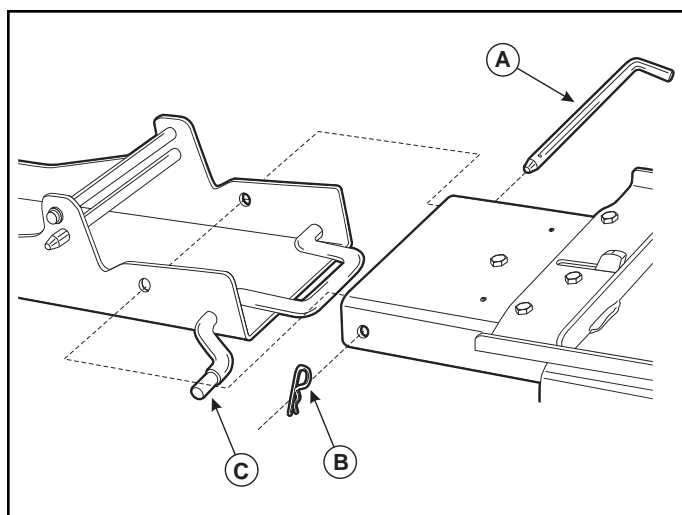

Figure 18. Removing Snow Blade from Hitch
6. Remove the snow blade hair pin (B, Figure 18) and mounting pin (A).